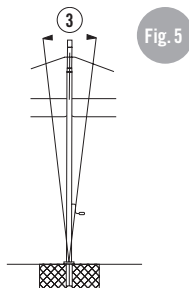

Fig. 5
**(d) Side angle of shade roof (figures 5 and 7)**
- Uncover the anchoring screws (8) by removing the lower connecting bolt (6) and lifting off the screw cover (7).
- Leave the anchoring screw located behind the mast (8a) screwed tight and loosen the other four anchoring screws (8) by ½ turn.
- Screw in the levelling screw (9) on the side of the lower lying edge in a clockwise direction. One complete turn of the screw causes this edge to rise approx. 4 cm.
- After levelling out, screw all anchoring screws (8) tight.